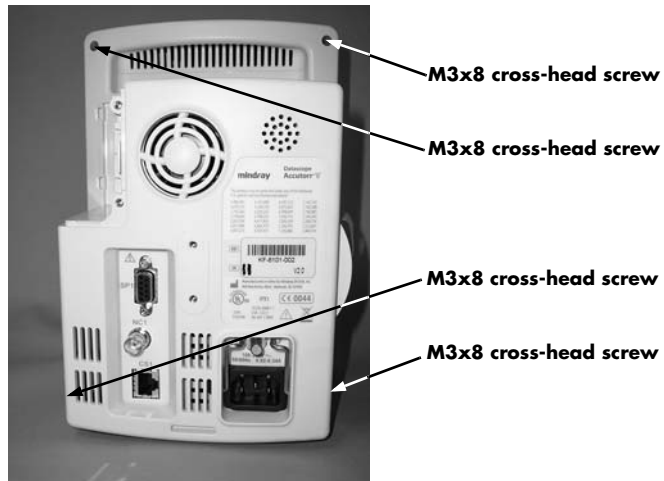

FIGURE 4-3 Remove four (4) M3x8 cross-head screws.
2. Remove the four (4) M3x8 cross-head screws (as shown in Figure 4-3).